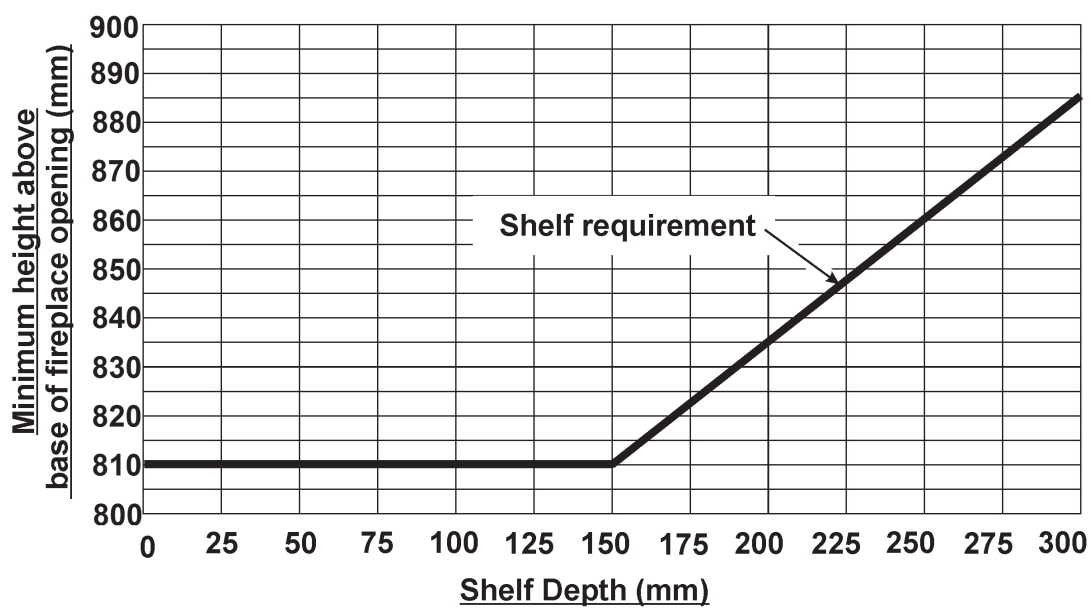

Figure 1
**Do** provide a minimum clearance as shown in figure 1 (all models) above the base of the fireplace opening to any shelf made of wood or other combustible material. Please bear this in mind if you are making any alterations to the room.